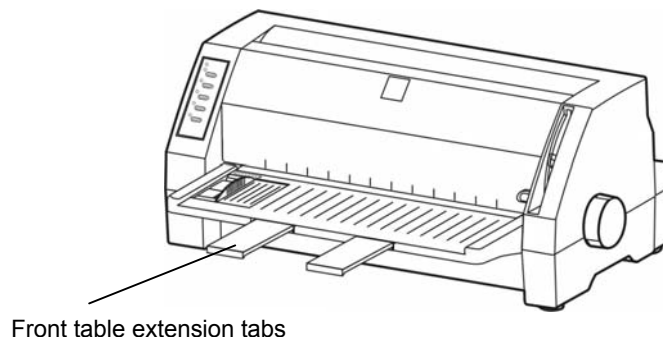

Figure 3-4 Pull out the small front table extension tabs
- 5 Please pull out the small Front table extension tabs if the size of paper is long and requires extra support, as shown in Figure 3-4